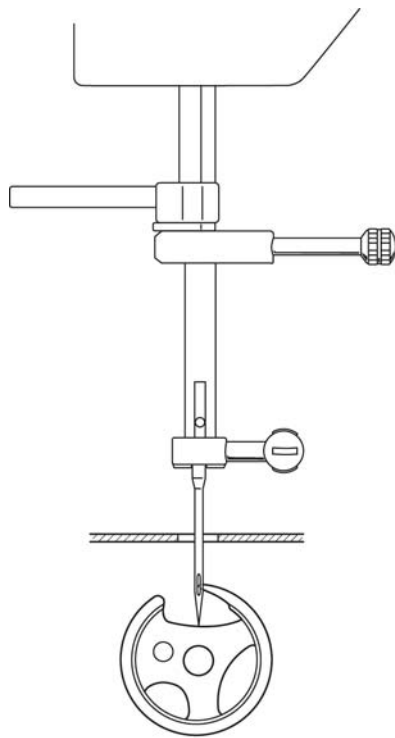

Fig. 15
When the straight stitch is set and the needle bar has moved 2.3 mm upwards from its lowest position, the sewing hook point must be exactly behind the center line of the needle (fig. 15).
- Turn the handwheel in sewing direction until the needle-rise clamp rests on the spacer (fig. 15).
- Slightly turn the handwheel back and forth until the needle-rise clamp rests on the spacer (fig. 15).